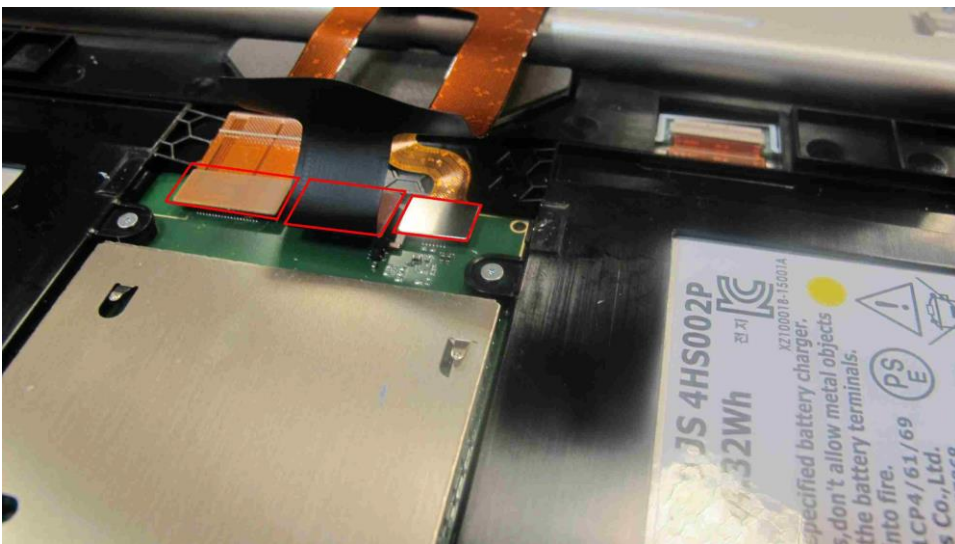

Figure 14.
- Carefully disconnect the three ribbon cable connectors – figures 14 and 15.